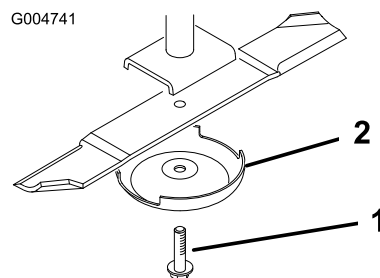

Figure 99
2. Grasp the end of the blade using a rag or thickly padded glove. Remove the blade bolt, anti-scalp cup, and blade from the spindle shaft (Figure 99).